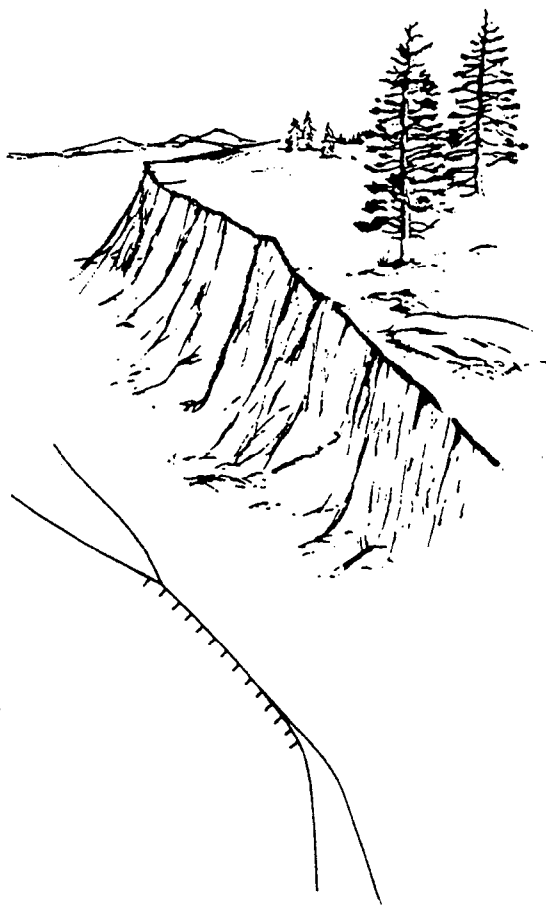

Figure 5-15.—Cliff.
7. **CLIFF.** A cliff is a vertical or near vertical slope (fig. 5-15). When a slope is so steep that it cannot be shown at the contour interval without the contours coming together, it is shown by a ticked “carrying” contour or contours. The ticks always point toward lower ground.